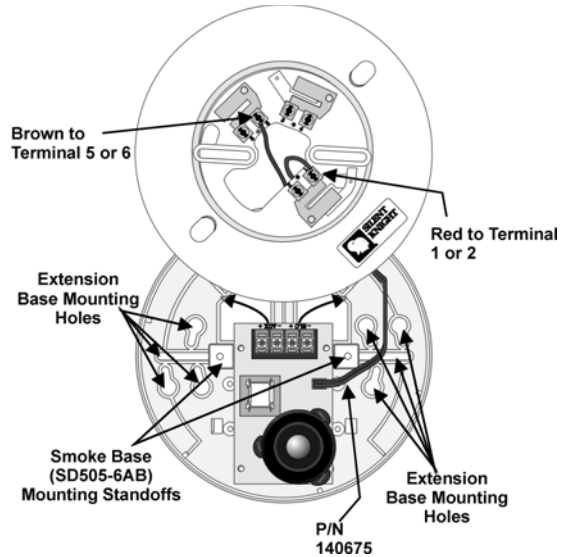

Figure 6: Mounting the SD505-6SB
This section contains instruction on how to mount the SD505-6SB. Refer to Figure 6.
1. Mount the extension base using the #8 1-1/2 screws through any of the extension base mounting holes. (See Figure 6.)
3. Connect wiring harness (P/N 140675) to the smoke base and SD505-6SB as shown in Figure 6.
4. Attach the smoke base to extension base (P/N 120505) using the #8 1/2” screws, through the smoke base mounting standoffs. (See Figure 6.)